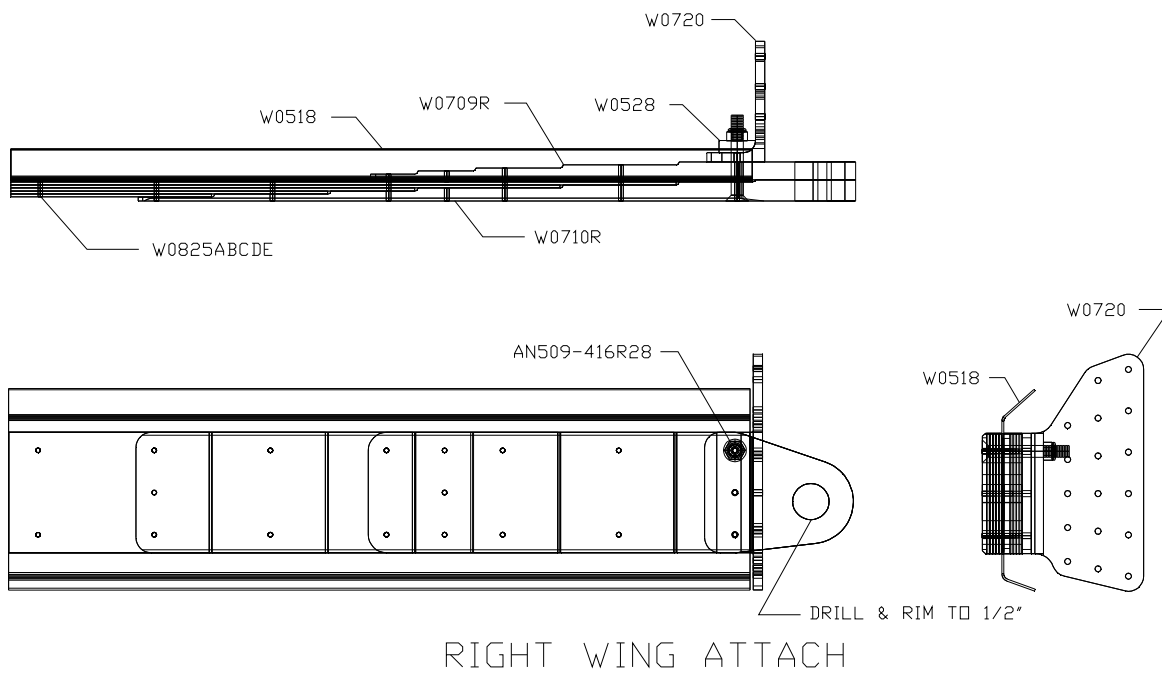
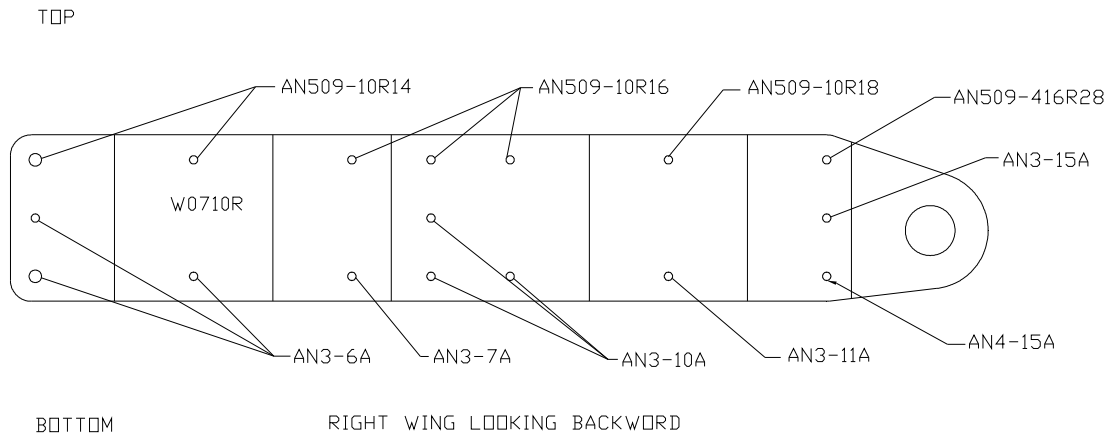
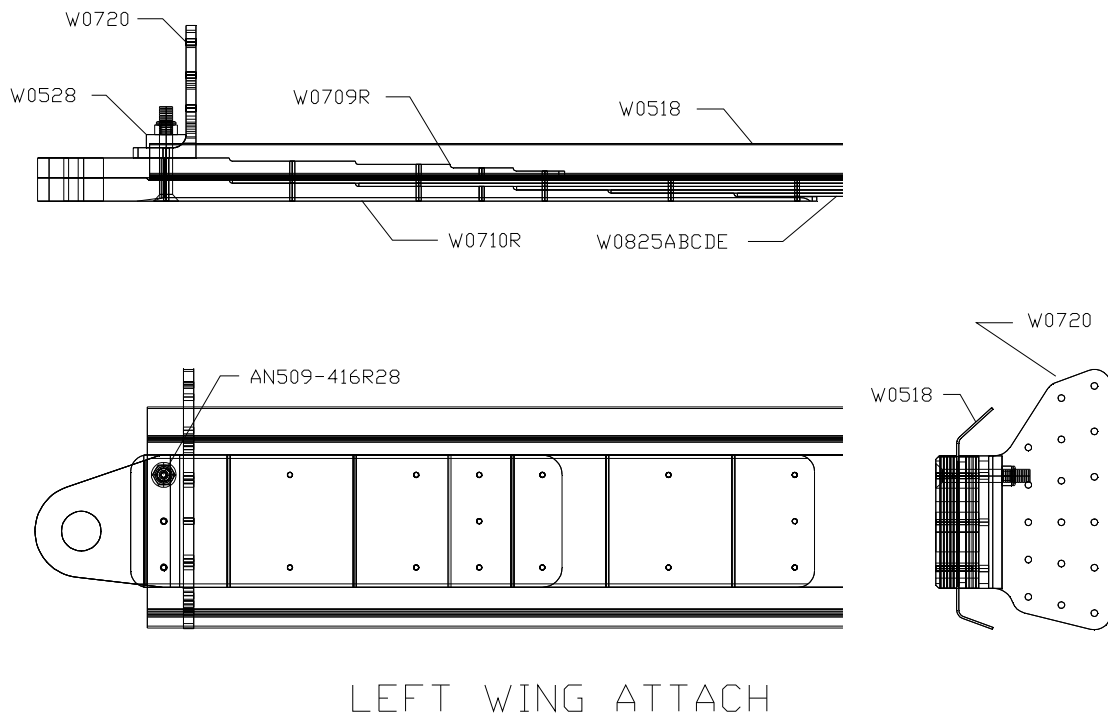

Fig. 6.3.5
Fig. 6.3.6
Fig. 6.3.7
- 6) With AN509-416R28 and AN4-15A, connect the Radius Shim (W0528), Root Attach Bracket (W0720) and the three Front Attach Brackets (W0709R) to the Spar and other Front Attach Brackets (W0710R). Figure 6.3.5. Refer Fig. 6.3.6 for bolts map.
- 9) Drill and Ream the Spar Attach hole to 1/2". Figure 6.3.5. **IMPORTANT NOTE:** For the position of the Root Attach Bracket (W0720), for the Left Wing see Figure 6.3.7. You will notice that the short Flange of the bracket faces the same direction on both wings.